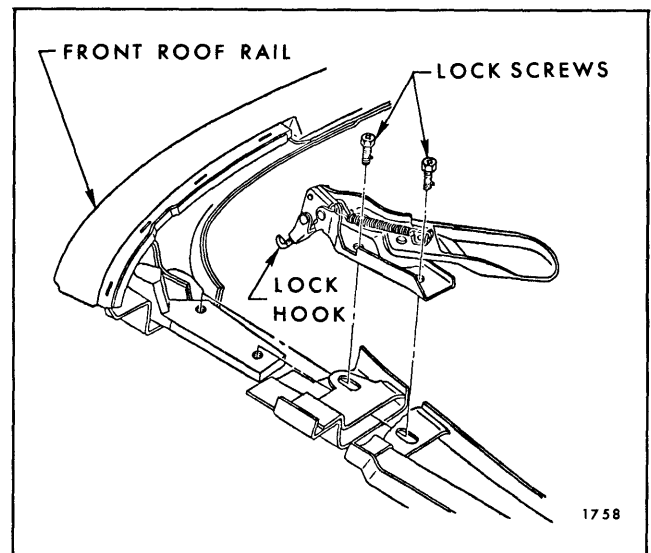

Fig. 13-85—Front Roof Rail Adjustment
2. Loosen side roof front rail lock attaching screws and adjust front roof rail fore or aft as required. Repeat on opposite side if necessary (Fig. 13-85).
2. With top in a half-open position, remove lock attaching screws; then remove lock assembly from front roof rail (Fig. 13-85).
2. To reduce or decrease locking action, turn lock hook counterclockwise (Fig. 13-85).